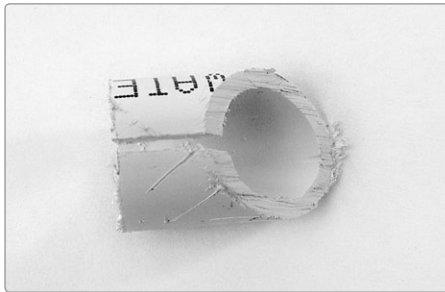

FIGURE 4-10: *The prepared mouthpiece*
Step 7 It's time to split the mouthpiece, which is the final sawing step. (Again, a table vise will make this easier.) You want to split this piece along its shortest edge, as shown in Figure 4-10. This doesn't have to be precise, so you don't need to draw guidelines.